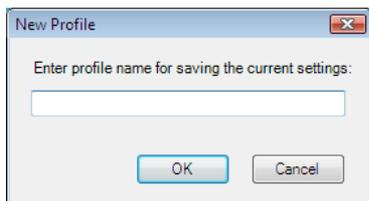

Figure 2-20. New Profile Dialog Box
- 4 Click Save As to open the New Profile dialog box, as shown in Figure 2-20 on the previous page.